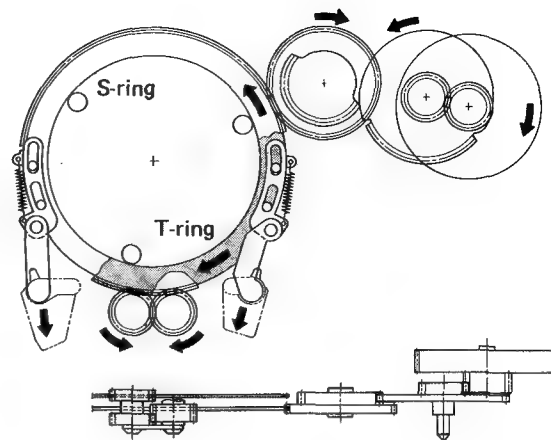

Fig. 2-2-1
- (2) These cams control the main brakes, soft brakes, pinch roller, band brakes, etc. through the logic slider, brake slider, and the pinch lock lever. (Fig. 2-2-1)